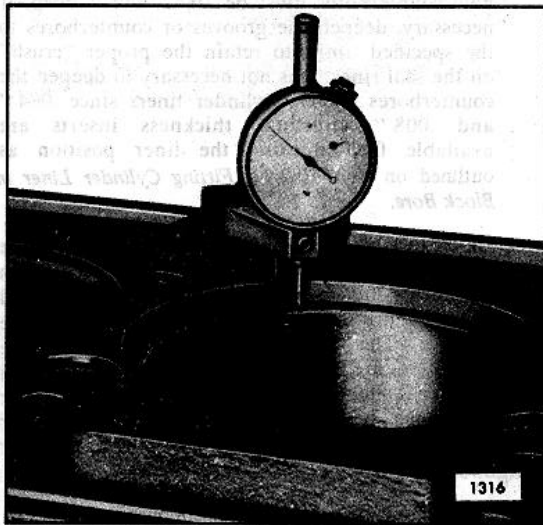

Fig. 18. Checking Depth of Counterbore for Cylinder Liner with Tool J 22273
6. Make sure the cylinder liner counterbores in the block are clean and free of dirt. Then check the depth (Fig. 18). The depth must be .4770 " to .4795 " and must not vary more than .0015 " throughout the entire circumference. The counterbored surfaces must be smooth and square with the cylinder bore within .001 " total indicator reading. There must not be over .001 " difference between any two adjacent cylinder counterbores when measured along the cylinder longitudinal centerline of the cylinder block.